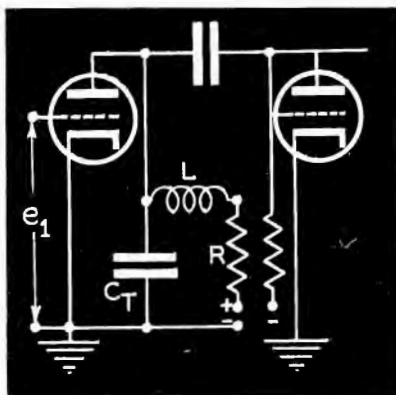
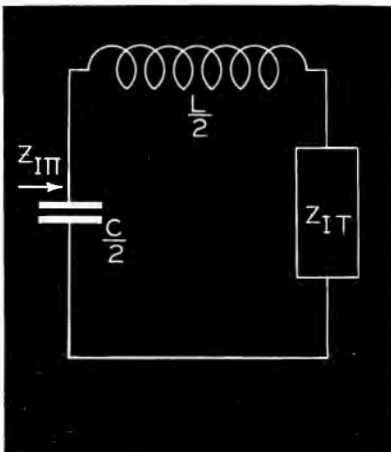
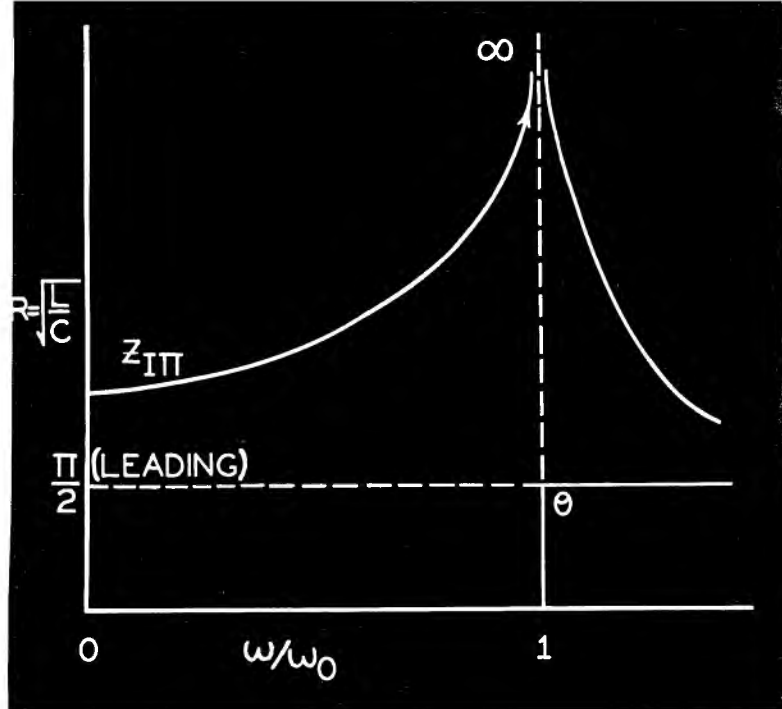

Figure 5
Figure 6
Figure 7
Figs. 5 and 6
In Fig. 5 (extreme left) appears life expectancy data of a pure tungsten filament as a function of filament voltage and minimum permissible filament voltage. Fig. 6 shows the effect of voltage fluctuation on allowable plate current and life expectancy of pure tungsten filament. Both of these curves were calculated on a basis of square wave fluctuation.
In order to maintain a high value for Z_L over as wide a frequency range as possible consistent with linearity of phase shift, various more complicated circuits are employed. A very useful method of deriving a suitable circuit configuration is based on filter theory. In Figure 5 is shown a simple modification of the resistance coupling stage shown in Figure 3A, namely, the introduction of an inductance L in series with the load resistance here denoted by R . We may regard the circuit as a parallel resonant LC circuit sufficiently damped by R to maintain a relatively constant impedance over a wide band of frequencies. However, the circuit is purposely drawn in such manner as to suggest that it represents a half section constant k filter terminated in what can be its nominal image impedance. Accordingly, it will be of interest to study the behavior of such a filter section when terminated in its true image impedance and viewed from its mid shunt terminals. (Figure 6).
We note in passing that a half section due to its asymmetry has a different image impedance when viewed from either pair of terminals. Thus (Figure 6) on the left hand side it has the image impedance of a π section, whereas, on the right hand side it has the image impedance of a T section. Either image impedance may be found by taking the square root of the product of the open circuit and short circuit measurements or calculations made from
If $Z_{I\pi}$ be plotted against the frequency ratio (ω/ω_0) , the plot will be as in Figure 7. As ω/ω_0 approaches unity, the denominator of Eq. (6) approaches zero and consequently $Z_{I\pi}$ approaches infinity. For values of ω/ω_0 greater than unity $Z_{I\pi}$ becomes a pure capacitive reactance and decreases asymptotically to zero. The interesting feature is that for values of ω/ω_0 less than unity $Z_{I\pi}$ is a pure resistance, which, however, is a function of frequency. Such an impedance is not physically realizable and arises in this example because of the assumption that this half section is terminated at its right hand end (Figure 6) in the true image impedance of a T section. The latter image impedance is not physically realizable since one suggested form for it is an infinite succession of T sections in cascade. However, were such a termination physically available it would not be of any use as shown since the gain (which would be simply $G_m Z_{I\pi}$) would rise to infinity (in the case of a true constant current generator) as ω/ω_0 approached unity. In practice, the gain would rise to a peak instead of being flat over a band of frequencies and then falling off gradually. It is therefore evident that a constant k half section filter is not in itself desirable unless suitably modified. A general method of modification is due to Percival² and is given in the next sec-